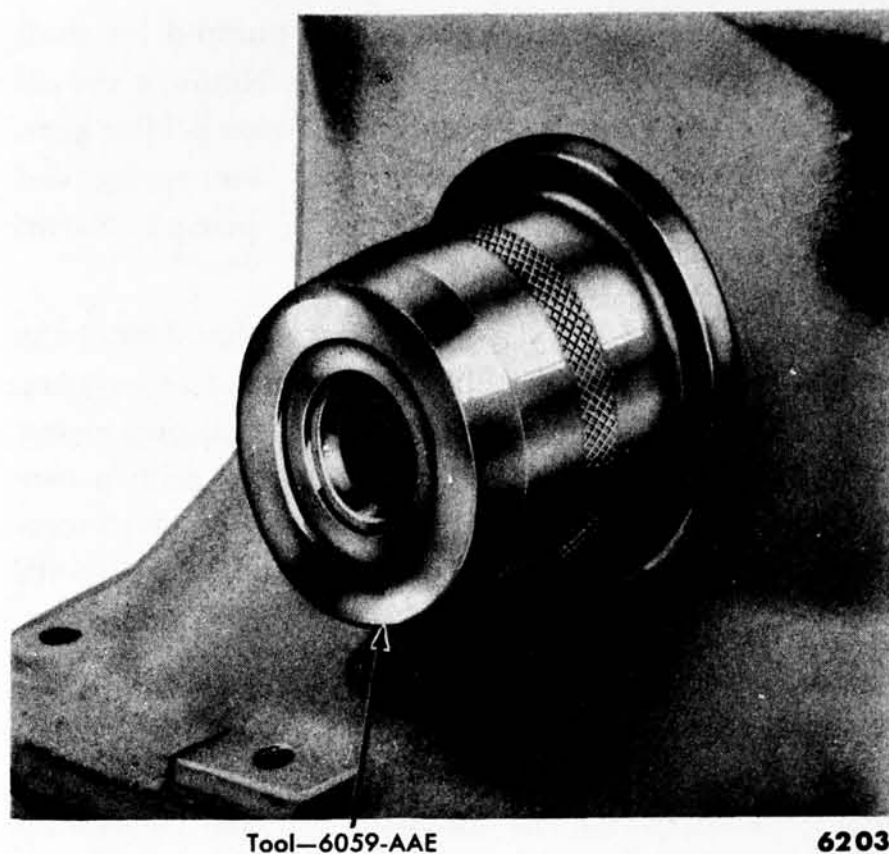

Fig. 16—Front Cover Alignment—Typical
(3) **INSTALLATION.** Clean the cylinder front cover. Apply a light film of grease to the rubbing surface of the crankshaft oil seal. Coat both sides of the cover gasket with sealer and position it on the block. Position the front cover assembly on the block, and align it with the tool shown in fig. 16 to make sure the oil seal will be in proper